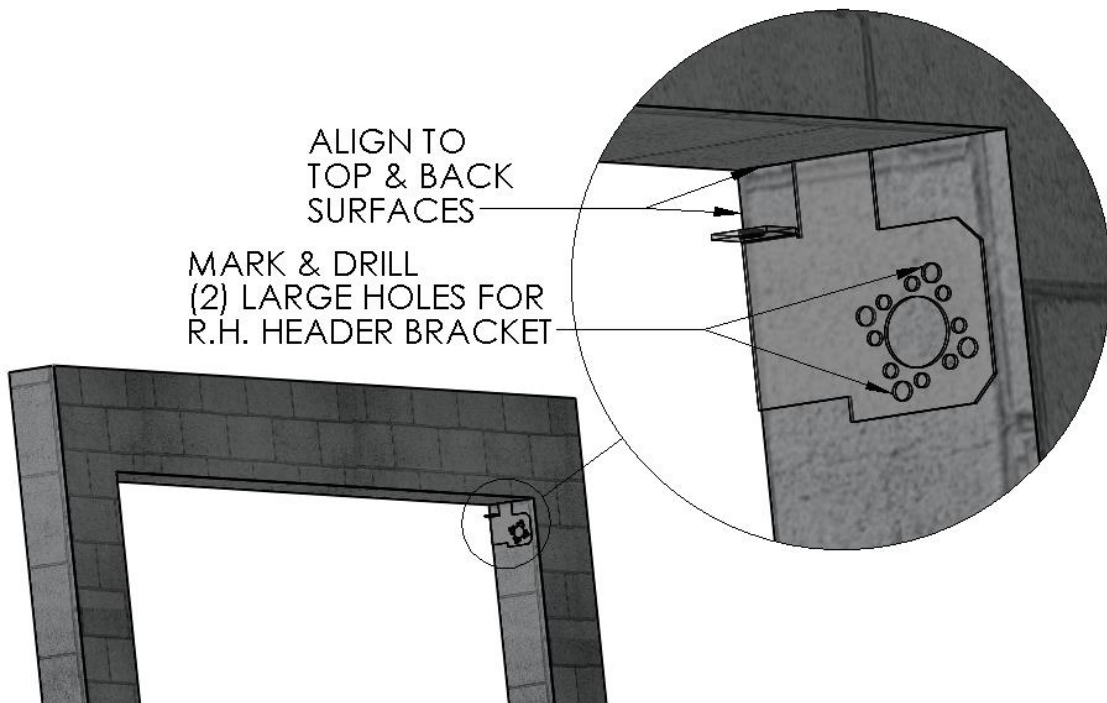

Figure 4 MARK & DRILL R.H. HEADER MOUNTING BRACKET
3. At the upper right of the opening, use the *R.H.* Header Mounting Bracket to transfer the hole locations to the mounting surface and drill for your hardware. Install your hardware through the Motor Mounting Bracket then through the Header Mounting Bracket into the mounting surface. (Figure 4 MARK & DRILL *R.H.* HEADER MOUNTING BRACKET)